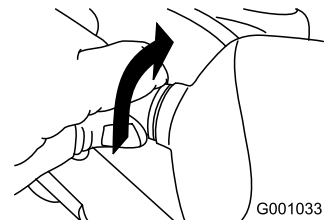

Figure 54
2. Turn the base of the bulb counterclockwise until it stops (Figure 54).